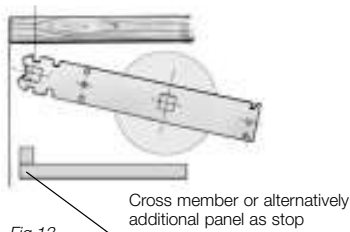

Fig. 13
- A cross member should be positioned underneath the end brackets as an upper limit stop for the Slam-rail (Fig. 13).